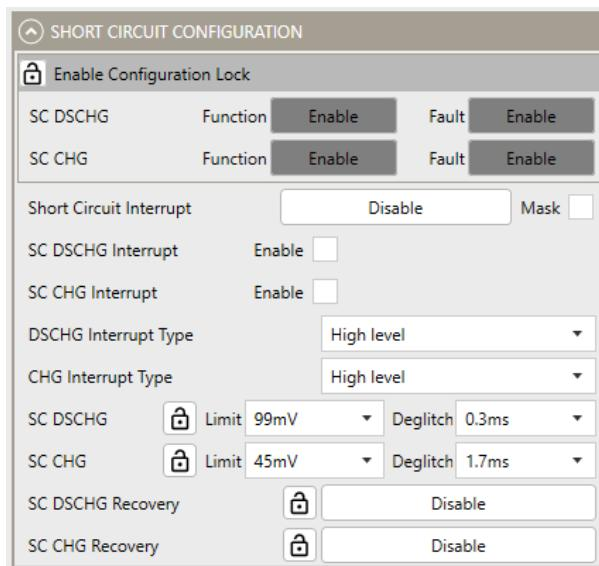

Figure 19: Short Circuit Configuration
11. Figure 19 shows the Short-Circuit Configuration settings in the GUI.